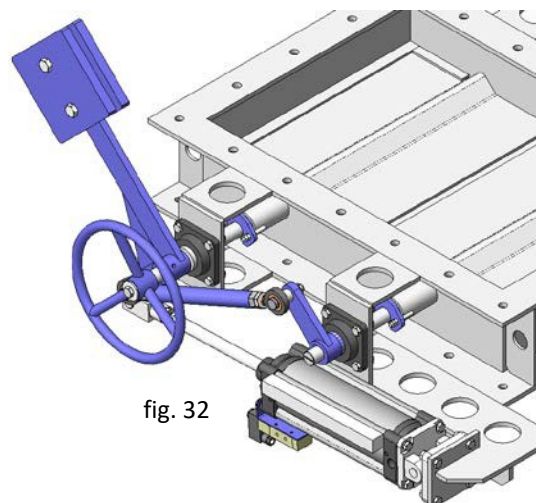

fig. 32
- Emergency manual actuators (fig. 32)
- **Emergency manual drive:** Allows manual operation of the damper butterfly in the event of power or air failure (fig 32).